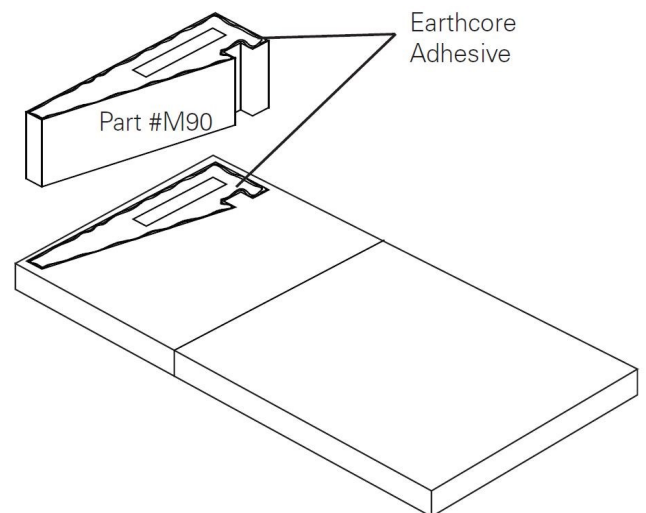

FIGURE 16
2. Set the first course of the firebox side walls and back walls into place. **(Figure 16 & 17)**